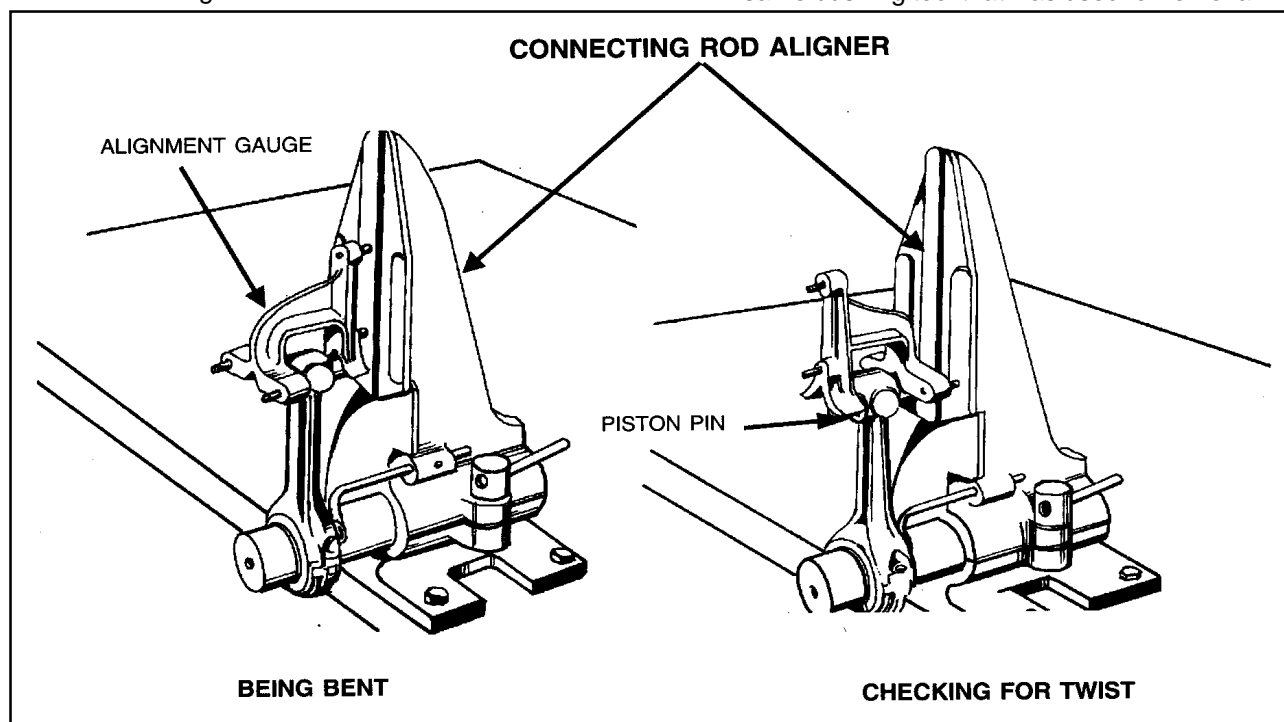

Figure 22
1. Place each connecting rod in an alignment fixture. As shown in Figure 22.